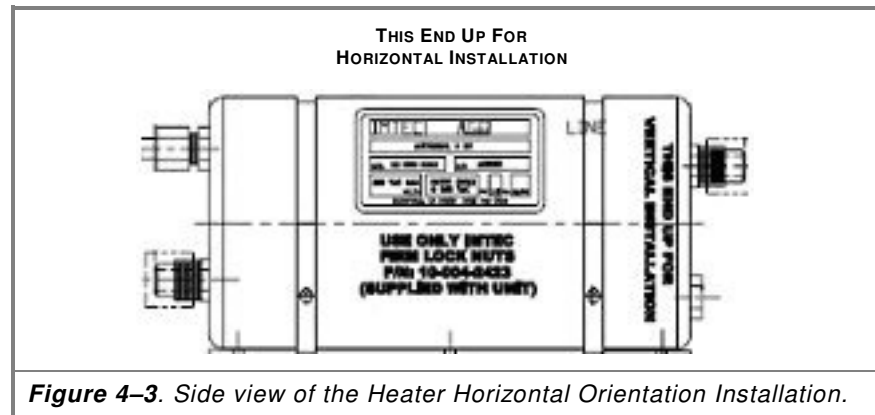

Figure 4-3. Side view of the Heater Horizontal Orientation Installation.
1. Using eight (8) ¼-inch diameter (6mm) screws (not provided), pre-drill (tapping as necessary) the mounting platform. Make sure that the horizontal installation label is facing up and the outlet fitting is in the 12-o’clock position (Figure 4-3). Mount the heater to the platform in a level position ($\pm 1^\circ$ at both “x” and “y” axes).